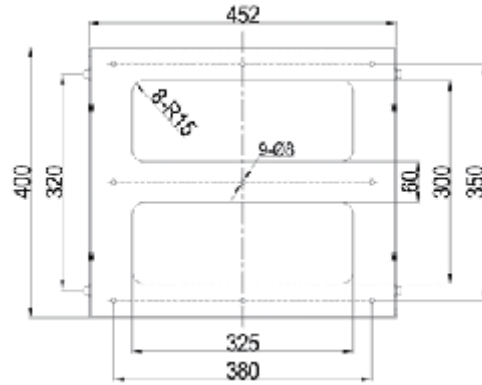

Fig.4 The size of For SUNTREE 15000TL/17000TL/20000TL
- Step1: Drill 9 holes as illustrated in the Fig.4
- Step2: Fix the mounting frame as illustrated in the Fig.4 by the screws,then, hang the inverter on the mounting frame.